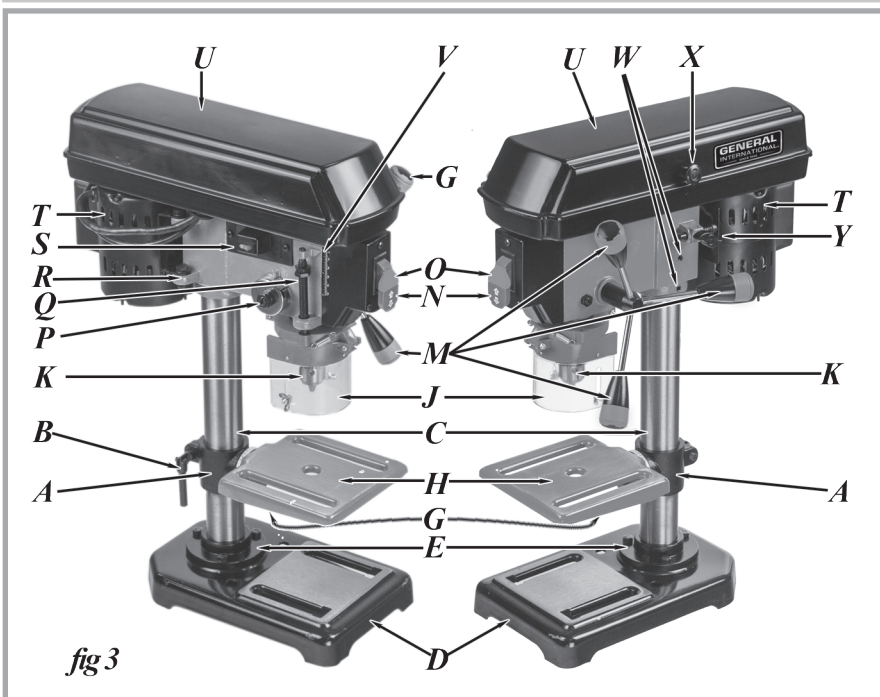

fig 3
6. Using a 4 mm hex (Allen) key, fasten the head assembly in place by tightening the head lock set screws (W, fig 3) in the right side of the head casting.
12. Install an M5 x 12 pan head screw from the inside of the pulley cover through the hole and attach the knob (X, fig 3) to the outside.
13. Clamp the chuck safety guard (J, fig 3) to the lower exposed part of the quill tube. Do not over-tighten.
1. Locate the laser switch (S, fig 3) on the left side of the head assembly.
2. To move the belt, loosen the belt tension lock knob (Y, fig 3) on the right side of the head assembly, and let the motor pivot forward so that it reduces the distance between the drive (motor) pulley and the spindle pulley.
6. Insert the drill bit into the chuck (K, fig 3) far enough to obtain maximum grip from the chuck jaws. Make sure the drill bit is centered in the chuck.
11. The drilling depth may be controlled by watching the indicator and depth scale (V fig 3), on the left side of the drill press head, or it can be regulated quite precisely by setting the depth stop nuts on the depth stop rod (Q, fig 3).